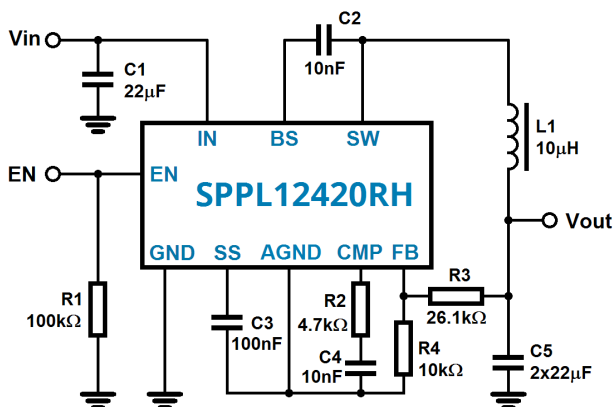

Figure 9. Typical Application Circuit
The SPPL12420RH uses a fixed frequency, current-mode step-down regulator architecture to deliver constant voltage to the load. Figure 9 shows a typical application circuit.
The circuit of Figure 9 takes an input voltage between 4.5 V and 24 V and regulates it down to 3.3 V while delivering 2 A of load current.
Based on the circuit of Figure 9, the output voltage depends on the feedback voltage  $V_{FB}$  and the resistor divider network consisting of R3 and R4, as expressed with the following equation:
The input capacitor of Figure 9 (C1) absorbs the input switching current, therefore, it requires adequate ripple current rating. The RMS current in the input capacitor can be estimated using the following equation:
**Output Capacitor:** The value of the output capacitor of Figure 9 (C5) has an effect on the output voltage ripple as expressed in the following equation:
**Compensation Components:** The SPPL12420RH employs current mode control for easy compensation and fast transient response. System stability and transient response are controlled via CMP pin. CMP pin is the output of the internal transconductance error amplifier. A series RC network (C4 and R2 of Figure 9) sets a pole-zero combination and controls the characteristics of the control system. The DC gain of the voltage feedback loop is given by the following equation:
The system has two poles of importance. One is due to the compensation capacitor (C4 of Figure 9) and the output resistor of the error amplifier. The other one is due to output capacitor (C5 of Figure 9) and the load resistor. These poles are located at:
The system may also have another zero of importance due to high output capacitance and ESR of C5 (output capacitor of Figure 9). The zero is located at: